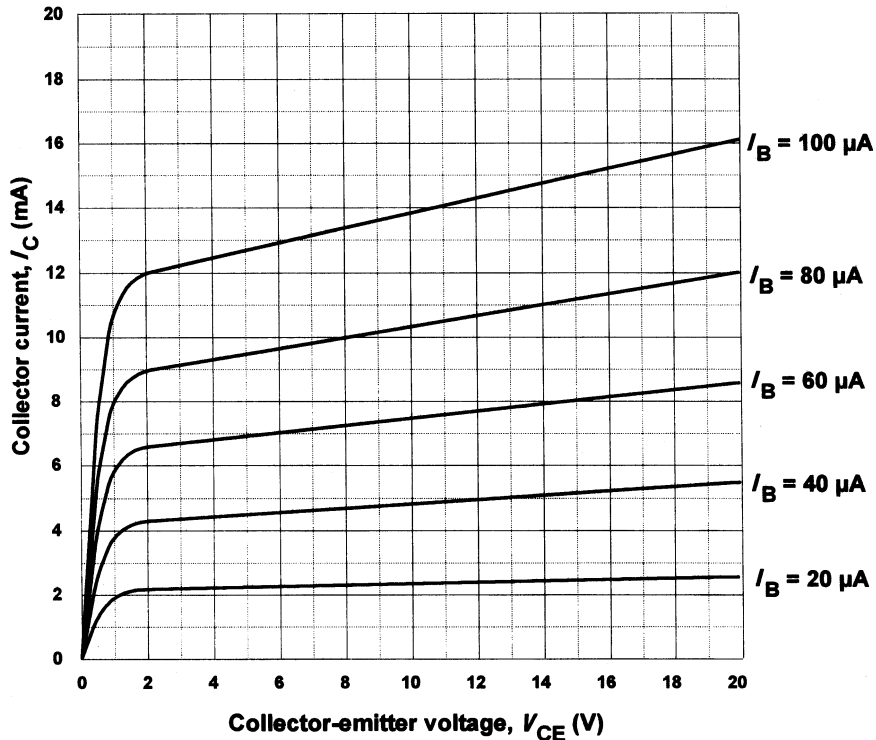

Figure 5.37
- 5.13 The output characteristic of an NPN transistor is shown in Fig. 5.37. Use this characteristic to determine: